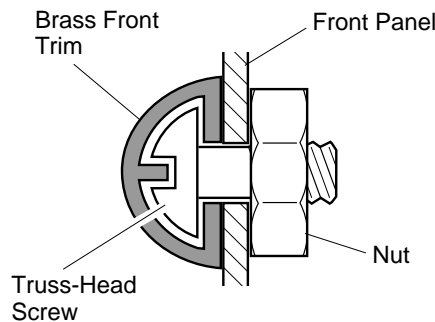

Figure 5 - Attaching Brass Front Trim to Front Panel
2. Slide the head of two truss-head screws from hardware packet into each end of brass front trim (see Figure 5).
3. Align shim under adjusting plate as shown in Figure 5.